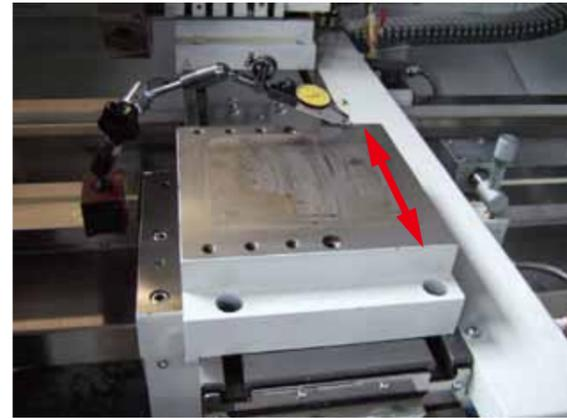

Fig.15
4) Move the cross slide along X-axis ( see Fig. 15 ) and measure the maximal difference. Ensure the accuracy to be within 0.01mm.